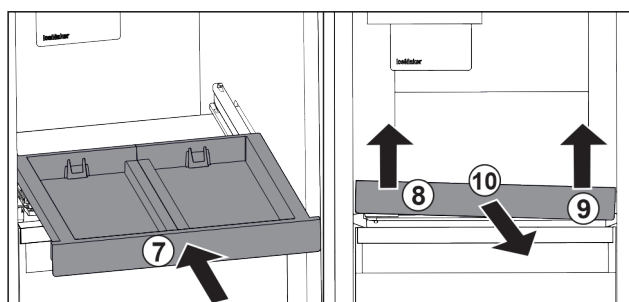

Fig. 82
- Slide in the pull-out board. Fig. 82 (7)
- Lift the pull-out board on the front left. Fig. 82 (8)
- Lift the pull-out board on the front right. Fig. 82 (9)
- Take out the pull-out board to the front. Fig. 82 (10)